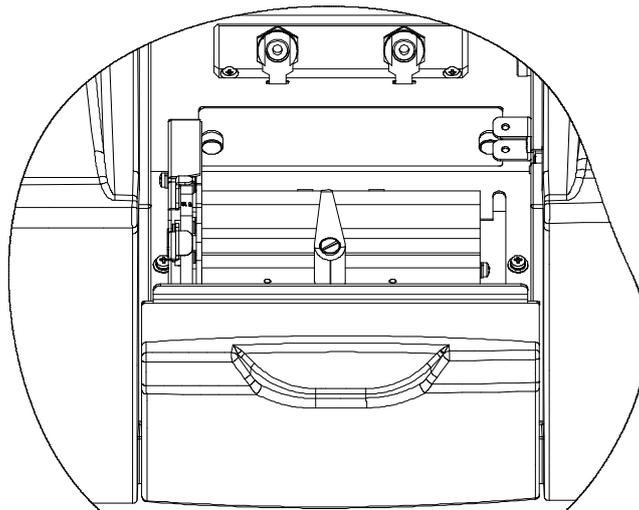

Figure 1.12 Set up when the cell retainer is inserted on the cell holder.
- (2) Adjust the position of the cell retainer mounting depending on the path length (Fig. 1.12).